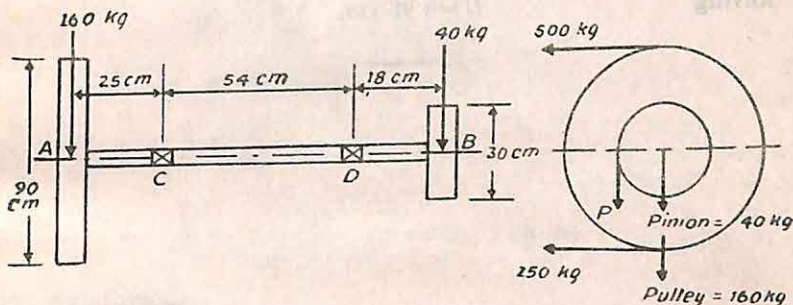

Fig. 12
27. A shaft supports the belt pulley  $A$  and the pinion  $B$  at the overhanging ends as shown in Fig. 12. The forces acting and necessary dimensions are also shown in the figure. The belt pulley is 90 cm in diameter and 160 kg in weight. The weight of the pinion is 40 kg and its pitch circle diameter is 30 cm. Calculate the pressure  $P$  on the tooth of the pinion and the diameter of the shaft if the shear stress is not to exceed 500 kg/cm2.